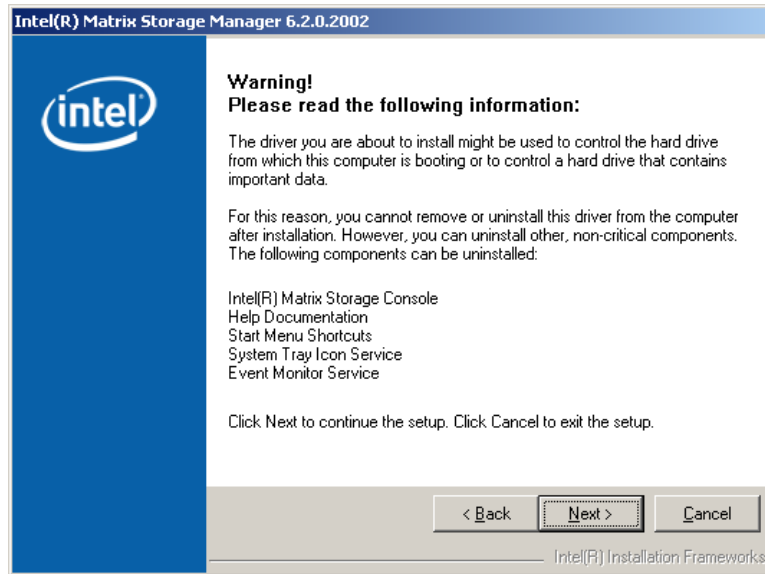

Figure 7-29: Matrix Storage Manager Warning Screen
Step 8: Click **NEXT** and a warning appears (**Figure 7-29**). Read the warning carefully and decide whether or not to continue the installation process.